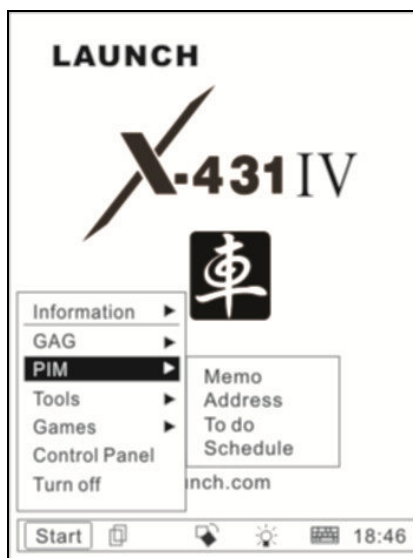

Figure 5-14
- 3) Select the function needed in the pop-up list. See Figure 5-14.